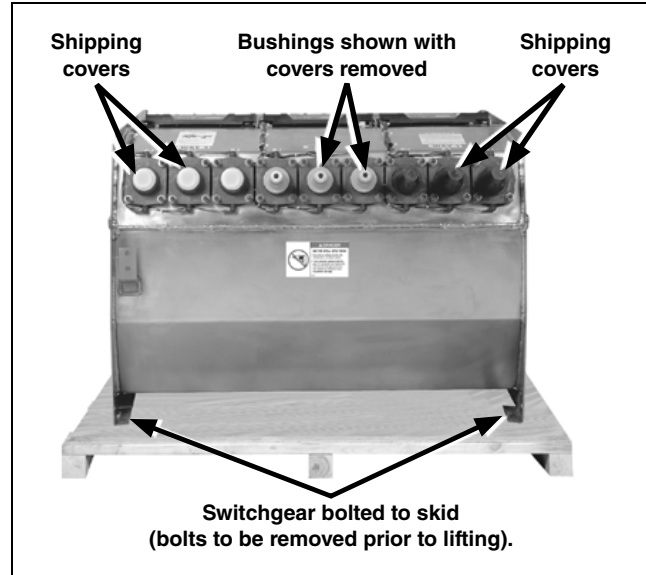

Figure 49. A Vista switchgear tank bolted to a skid for shipment. (Manual unit shown for illustration purposes.)
- STEP 2.** Unbolt the tank from the skid, remove the switchgear from its crate, and lift the gear into place, observing the precautions given in the “Handling” section on page 8. See Figure 3 on page 8 and Figure 49.